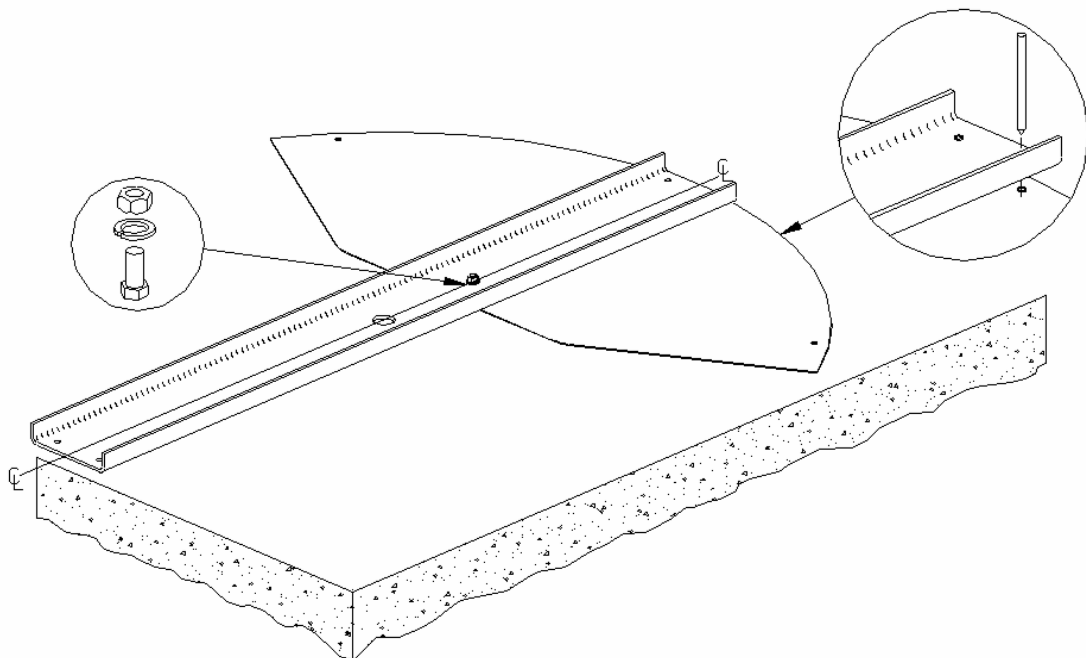

Figure 2
3. Attach ceiling plate to the channel with one screw, hex head $\frac{3}{8}$ " - 16 X 1"; washer, lock $\frac{3}{8}$ "; nut, hex head $\frac{3}{8}$ " - 16. See Figure 2.
- 4. Next place this assembly (ceiling plate and channel) on the floor to mark anchor stud holes. Align the two 1/2" holes located at the shield post end of the ceiling plate with the proper two holes in the channel. Keep holes aligned and move assembly to position on the previously marked center line (to assure good alignment tighten the 3/8" nut and screw while keeping a 1/2" center punch in one of the two holes of both the ceiling plate and channel at the shield post end). See Figure 2. Center of channel falls on center line reference established in #2 above.